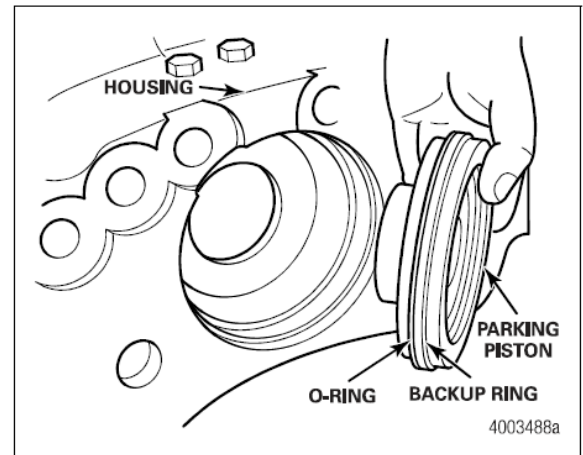

Figure 3.9
- Remove the five-inch (127 mm) diameter O-ring and backup ring from the parking piston. Discard the O-ring and backup ring. Figure 3.9